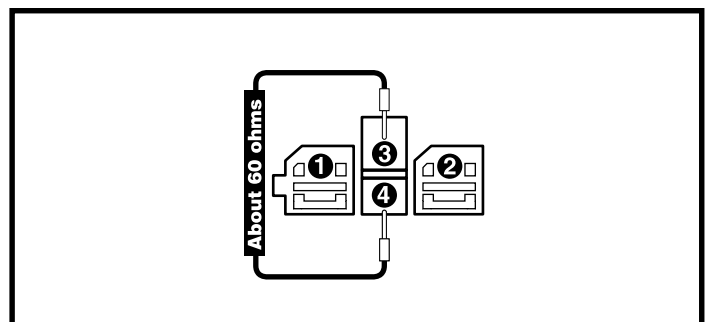

Figure 28. Connector 13b
4. Unplug connector 13b from the power module (4). **See diagram 2.**
5. Measure resistance across pin 3 and pin 4 on connector 13b. **See figure 28.**
- *If your multimeter indicates about 60 ohms, then replace the power module (4) and retest the system.*